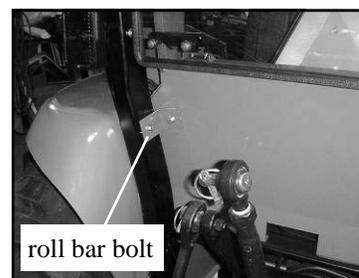

Fig. 2.4
- 2.4 Secure the lower rear panel to the roll bar using the existing roll bar bolts as shown in fig. 2.4. Attach the rear panel mounts to the rear panel with the locknuts being on the inside of the cab. Use two button head screws, plastic washers, steel washers, and locknuts.